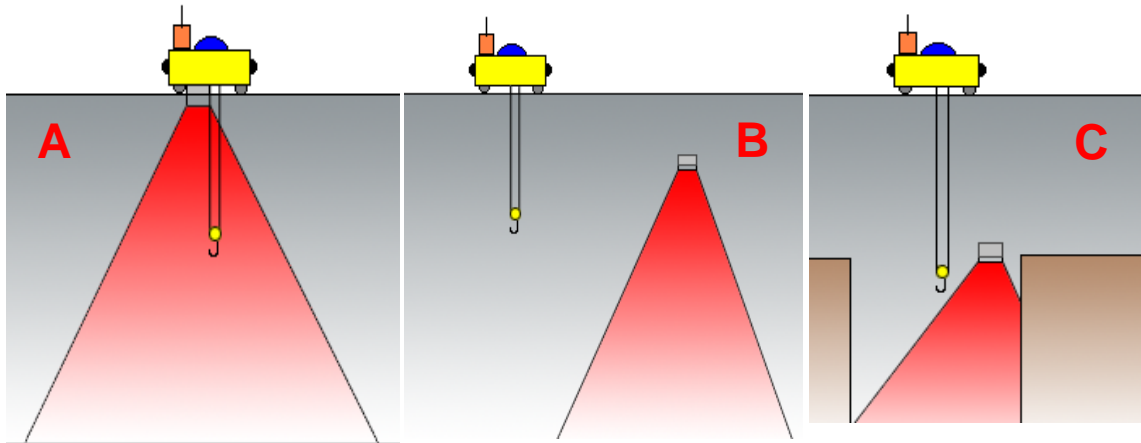

Figure 13. Range Limiter Application Examples
targeted working zone as shown in Figure 13. Range Limited TM70 RF transmitters are equipped with an infrared sensor that receives the information from the LA70 transmitter, analyzes the information, and then acts as a permissive. If the transmitter does not receive the infrared data within a pre-determined time (factory setting is four (4) seconds), the outputs are deactivated.
Figure 13 shows some LA70 IR Range Limiter application examples.